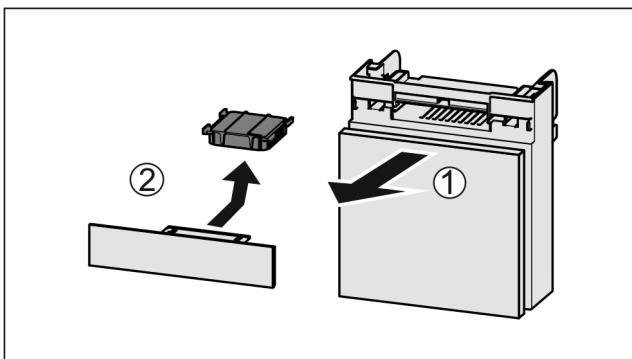

Fig. 47
- ▶ Pull out the compartment Fig. 47 (1).
- ▶ Remove the carbon filter Fig. 47 (2).